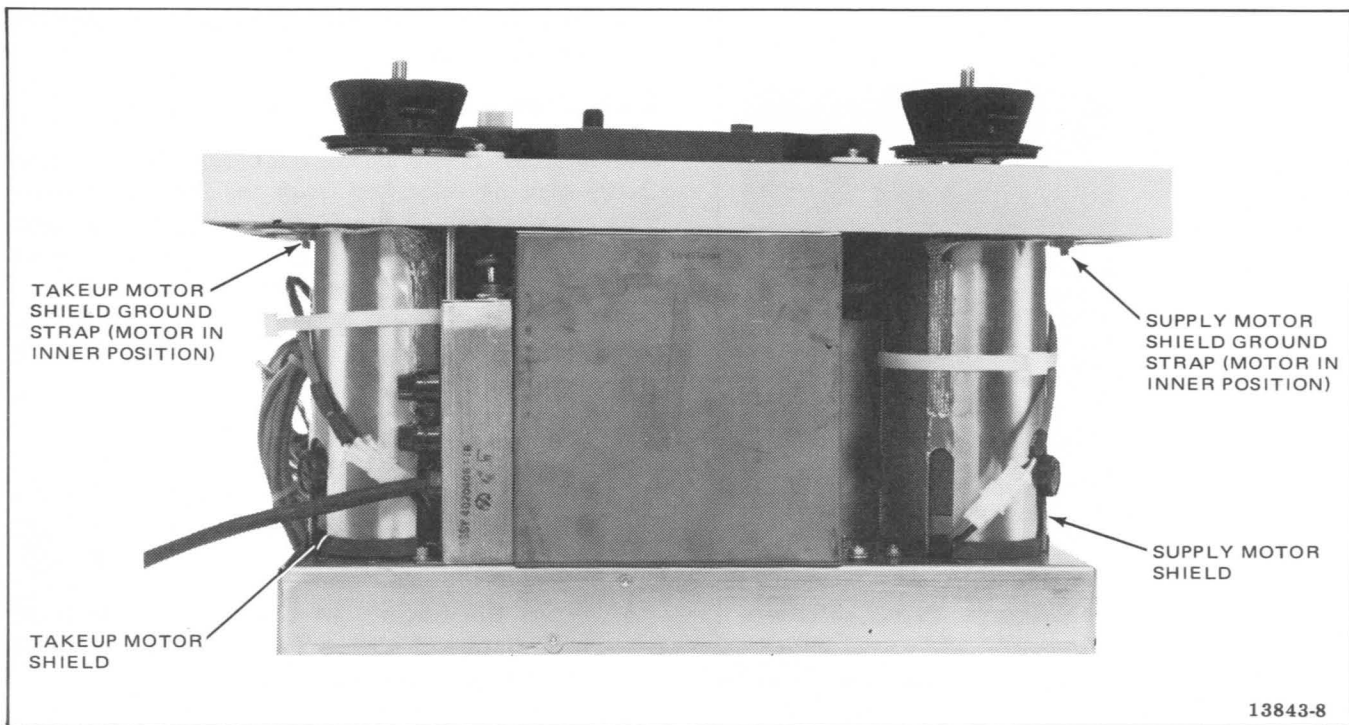

Figure 2-18. Rear View of Transport
6. Relocate the motor and the shield end plate to the outer position of the transport with the ground strap facing inward (180° from its previous position, shown in Figure 2-18).